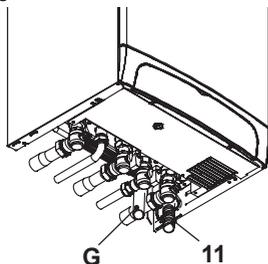

Fig. 6.4
- Connect the pipe G (Fig. 6.4) from the pressure relief valve to the safety discharge pipework.
- Fit the condensate drain 11 (Fig. 6.4) in the air brake connected to the drainage pipework. See also section "Condensate drain" to page 40.